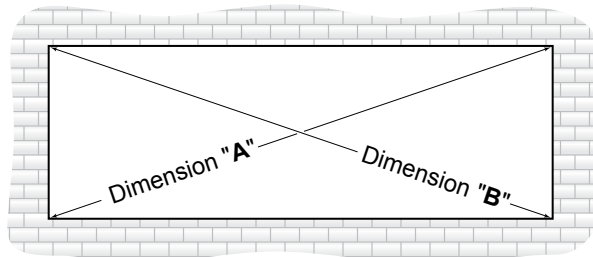

Fig. 24.1 Dimension "A" = "B"
- A. Make sure the opening is square and plumb. Measure each diagonal of the opening. **SEE Fig. 24.1.**